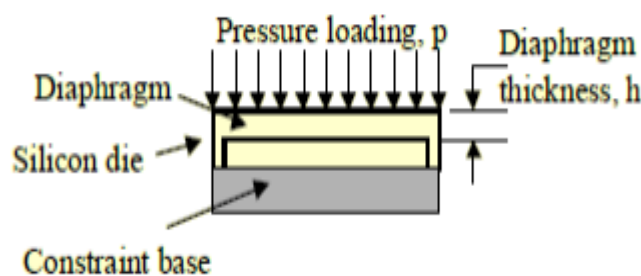

Fig. 4A
- 4A.** Determine the minimum thickness of the circular diaphragm of a micro pressure sensor made of Silicon as shown in the figure 4A. With conditions: Diameter $d = 500\ \mu\text{m}$; Applied pressure $p = 24\ \text{MPa}$; Yield strength of silicon $\sigma_y = 7000\ \text{MPa}$; $E = 190\ \text{GPa}$ and $\nu = 0.25$. **6**